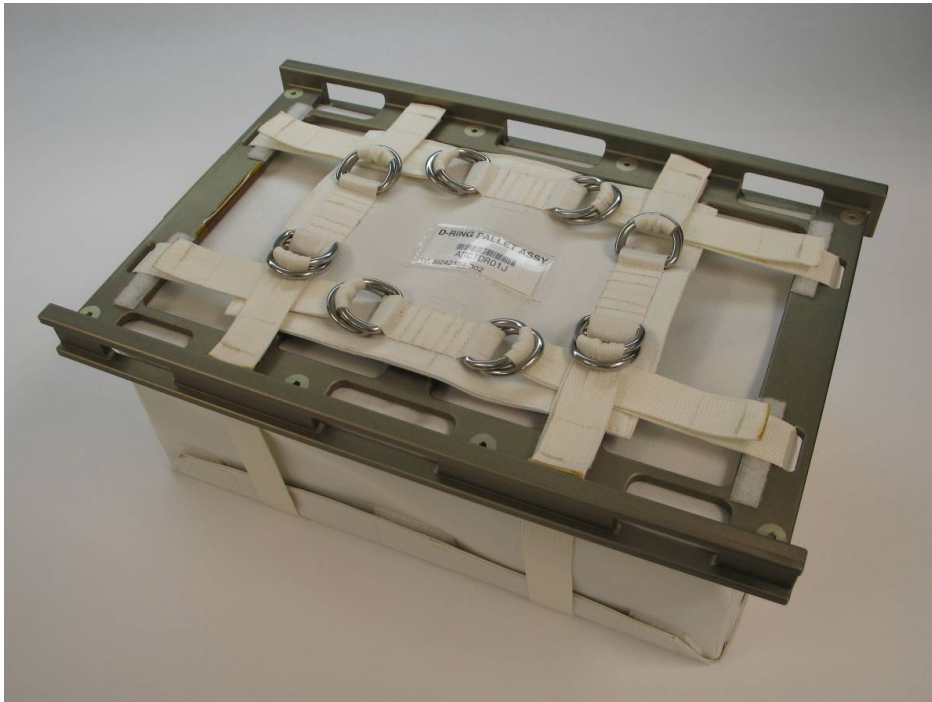

Figure 5-5. - MERLIN Pouch Assembly Strapped
- * D-Ring Pallet. (See Figure 5-5 REFERENCE 5: MERLIN *